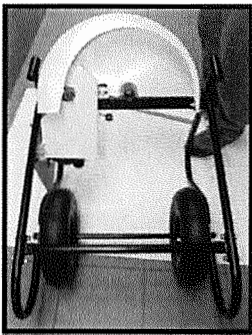

Fig.38: Remove mixer drum and place drum gear guard over mixing drum gear. This guard wraps over the drive assembly guard.
- d. Remove mixer drum and place plastic guard for drum gear as shown. (Fig.38). The guard should wrap over the guard tabs on the support bar.